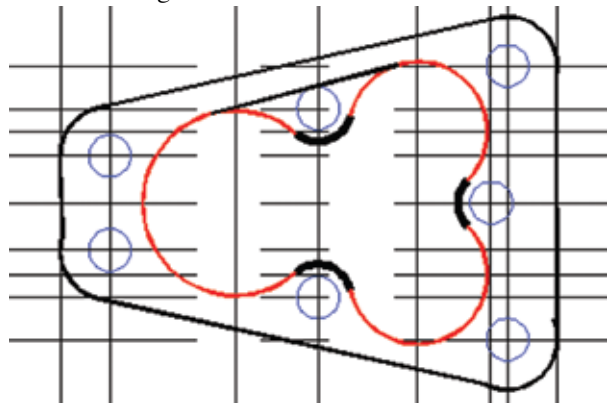

Figure 9.14
- Your drawing should now look like the drawing in Figure 9.14.